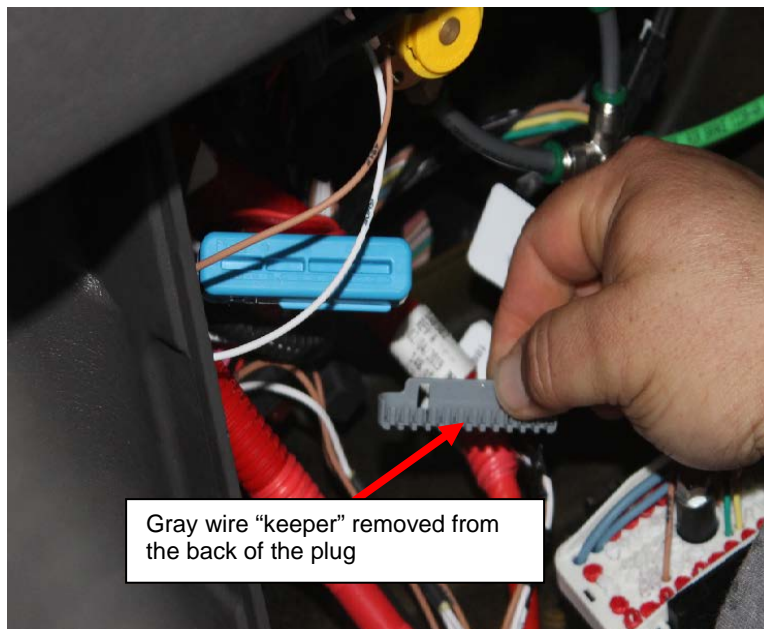

Figure 5: Wire Keeper Removed from the Back of the Plug
4. Remove the gray wire “keeper” and set aside. See **Figure 5**.
8. Cut the wire in Position 'J' and put a cap or sealing butt splice on it and install it. See **Figure 5** for location.